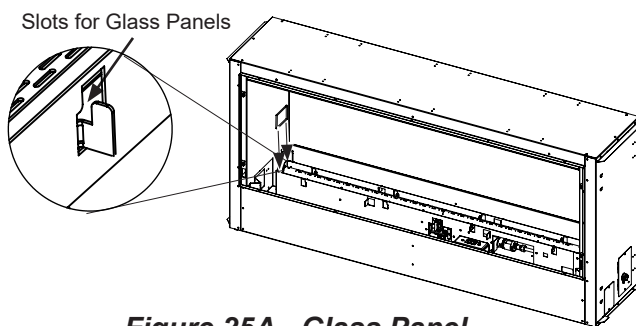

Figure 25A - Glass Panel Installation STEP 1
In the center of the fireplace floor, there is a rectangular opening surrounding the burner. The glass panels will be installed into slots between the burner and the edges of the opening (see detail view in Figure 25A/B). The Media Tray (Fireplace Floor) should be installed prior to placing the glass barrier panels. Note: Install the media tray by angling it—place the lower end first, then lower the other end into position. Take care to avoid scratches.
1. Starting with the short panels of glass, slide one in at each end of the burner. Push into place (see Figure 25A).